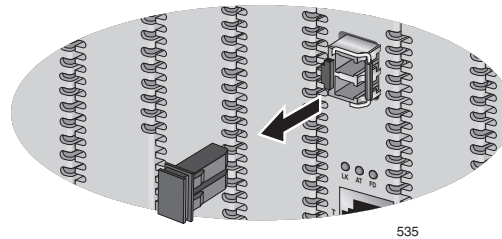

Figure 34. Removing the Dust Cover from the SFP Transceiver
2. Remove the dust cover from the SFP transceiver in the line card, as shown in Figure 34.